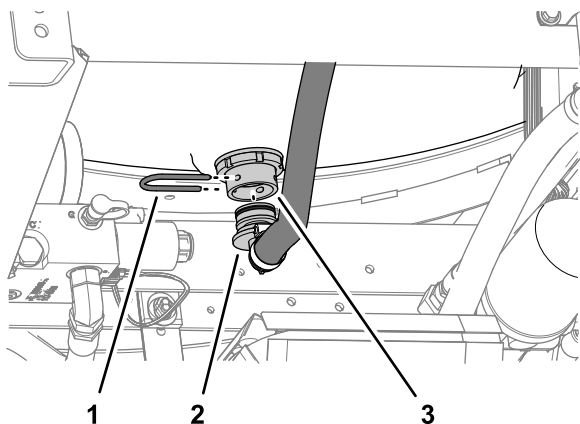

Figure 3
- At the bottom of the rinse tank, remove the retainer fork that secures the 90° fitting of the supply hose to the bulkhead fitting (Figure 3).
- Remove the 90° fitting from the bulkhead fitting (Figure 3).